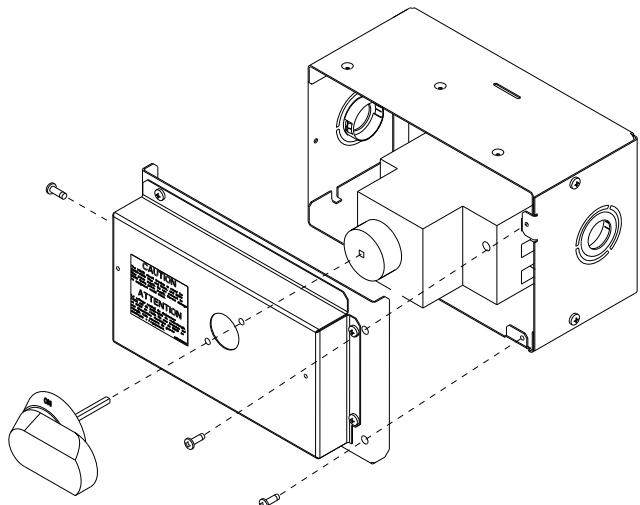

Fig. 22 – HACR Handle and Shaft Assembly
2. Remove (3) cap head screws that secure the HACR enclosure — (2) on the face of the cover and (1) on the left side cover. See Fig. 22.
5. Insert the shaft all the way with the cross pin on the top of the shaft in the horizontal position. See Fig. 22.
9. Secure the handle to the painted cover with (2) screws and lock washers supplied.
10. Engaging the shaft into the handle socket, re-install (3) hex screws on the HACR enclosure.